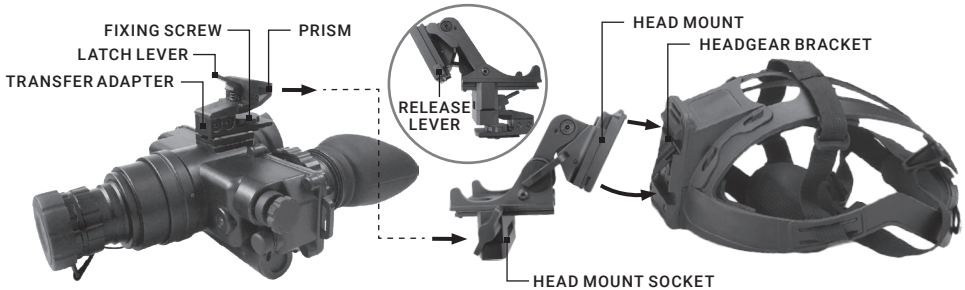

FIGURE 2-2. MOUNTING WOLF-7 PRO TO HEADGEAR ASSEMBLY
4. Install the transfer adapter (Figure 2-2) to mounting rail on the goggles body and fix adapter with the fixing screw.